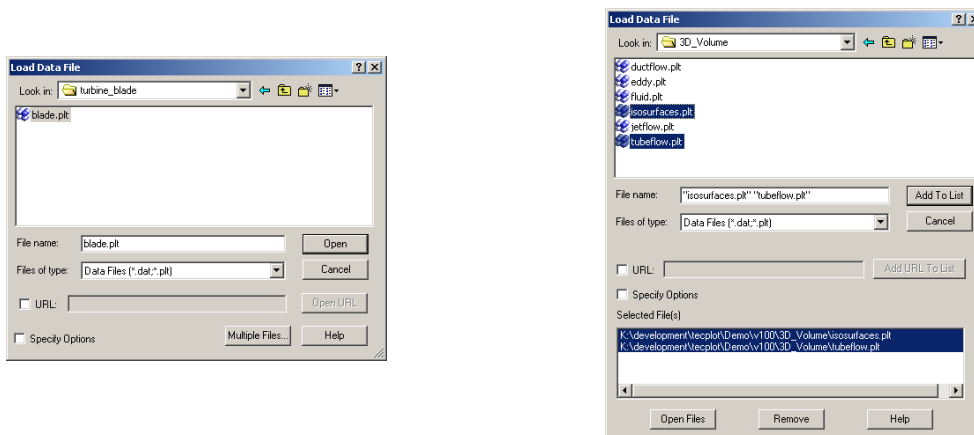

Figure 5-1. Load Data File (left) and the Load Multiple Data Files dialogs (right).
1. From the File menu, choose Load Data File(s). The Load Data File dialog appears, as shown in Figure 5-1.
2. Click Multiple Files. The Load Data File dialog for multiple files appears, also shown in Figure 5-1.